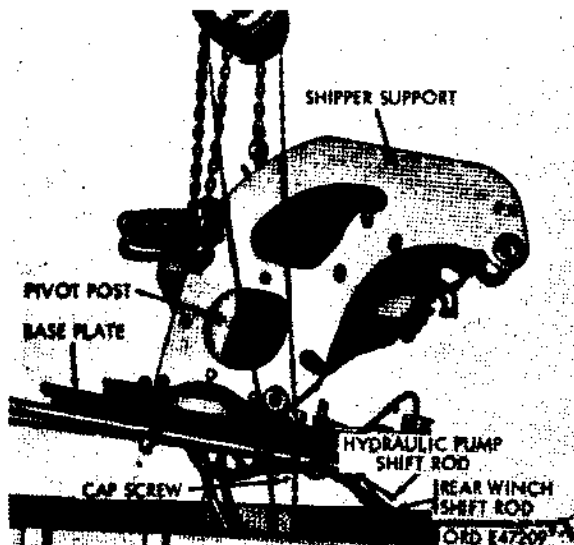

Figure 421. Removing base plate and pivot post assembly from crane body (M62)
- (16) Remove hex-nut from cap screw (fig. 421) securing base plate to hydraulic lines support bracket (fig. 409).
- (17) Place a chain under the operator's compartment and between the shipper support (fig. 421), and using overhead hoisting equipment, remove base plate and pivot post assembly from crane body.
- (5) Place hydraulic lines over support bracket (fig. 409), and secure bracket to base plate with cap screw (fig. 421) and hex-nut.